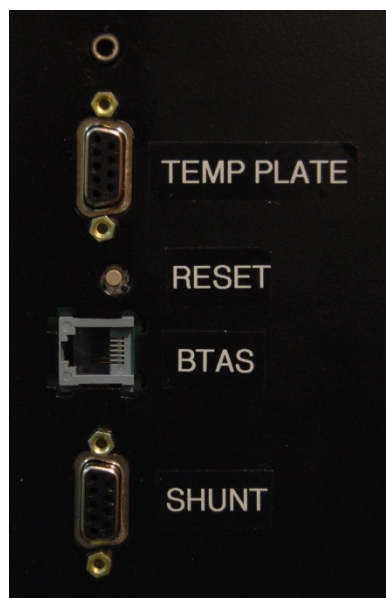

Figure 66 – Rear Panel Connections
- 7.2.1. Connect a control cable to the Rear Panel of the Charger-Analyzer (connector labeled BTAS) – see [Figure 66]